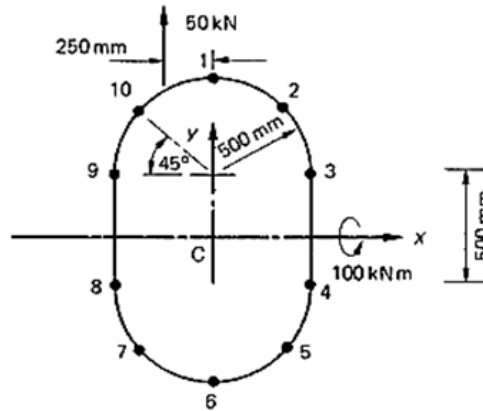

Figure 5
9. (a) The doubly symmetrical fuselage section shown in Figure 5 has been idealized into an arrangement of direct stress carrying booms and shear stress carrying skin panels; the boom areas are all 150mm^2 . Calculate the direct stresses in the booms and the shear flows in the panels when the section is subjected to a shear load of 50 kN and a bending moment of 100 kN m [7M]